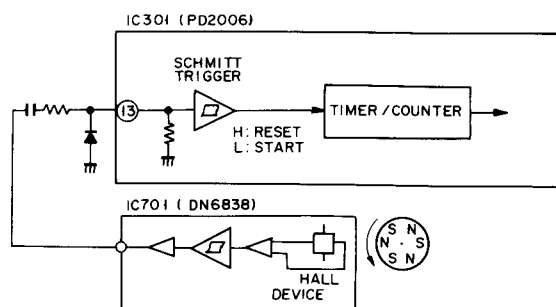

Fig. 3-14 Auto-stop operation
If the tape is stopped during a tape transport mode (playback, fast forward, rewind, recording), the tape deck is automatically switched to stop mode. (Fig. 3-14). Tape transport is monitored by a detector IC (IC701) employing Hall elements. While the tape is moving, a magnetic disc is belt-driven by reel base (R), resulting in IC701 generating pulse output signals. These pulse signals are applied to pin 13 of the control IC (IC301). This pin is a Schmitt trigger input where an internal counter is reset by "H" level inputs. Hence, this counter is continuously reset while the tape is moving. When the end of the tape is reached, or if the tape is stopped for any other reason, "H" level inputs are no longer applied to pin 13 of IC301. The internal counter consequently completes counting within about two seconds, and the control IC (IC301) switches the tape deck to stop mode.